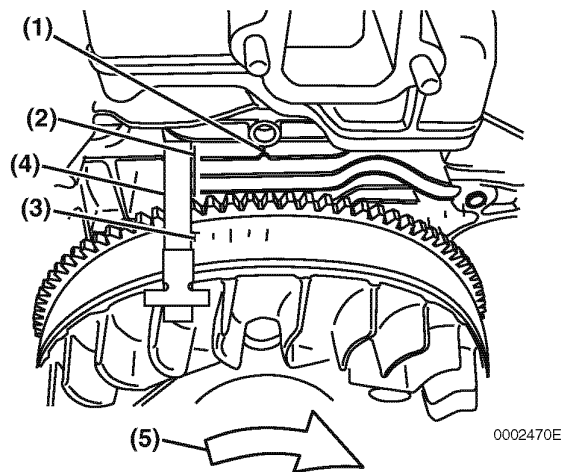

Figure 8-29
8. Carefully rotate the flywheel in a clockwise (Figure 8-29, (5)) direction to allow the piston to contact the intake valve. Measure the distance from the existing TDC mark (Figure 8-29, (1)) on the cooling fin to the TDC mark on the flywheel (Figure 8-29, (3)) (where the flywheel stopped).
10. With the piston in contact with the intake valve, use a straightedge (Figure 8-29, (4)) and scribe or fine point marker to transfer the position of the flywheel TDC mark (Figure 8-29, (2)) to the cooling fin.